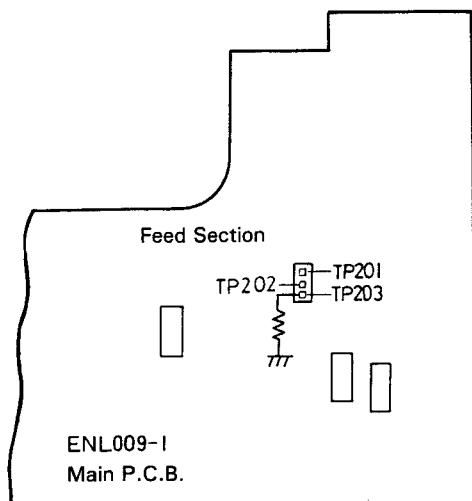

Fig. 21
1. Connect TP203 to ground via a 2.2kΩ resistor, as shown in Fig. 21.
3. Adjust screw (A) to obtain a voltage of $85 \pm_{10}^+5$ mV between TP201 and TP202.